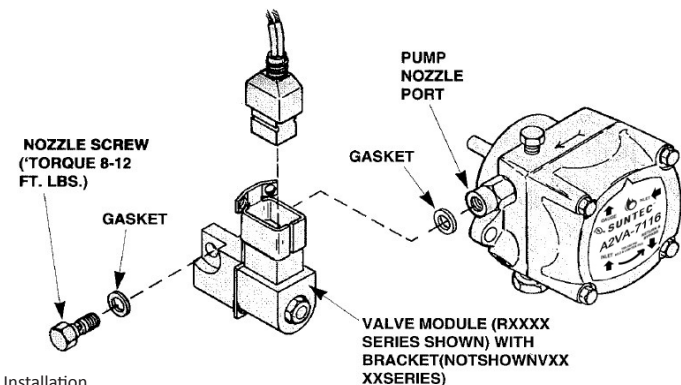

Figure 1 : Valve Installation
B. INSTALLATION – R valve (See Figure 1)
2. Rotate valve module as shown in Figure 1 or according to the burner manufacturer's recommendations if applicable.